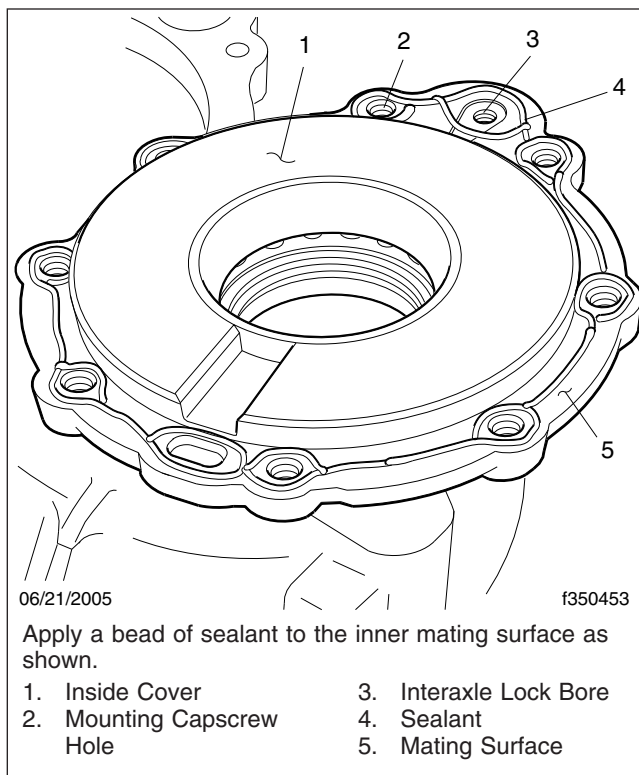

Fig. 3, Sealant Application
8. On the mating surface of the bearing cage, lay down a bead of Loctite® 5900 sealant, or equivalent. Go around all of the bolt holes and other openings in the inside cover of the bearing cage. See Fig. 3.